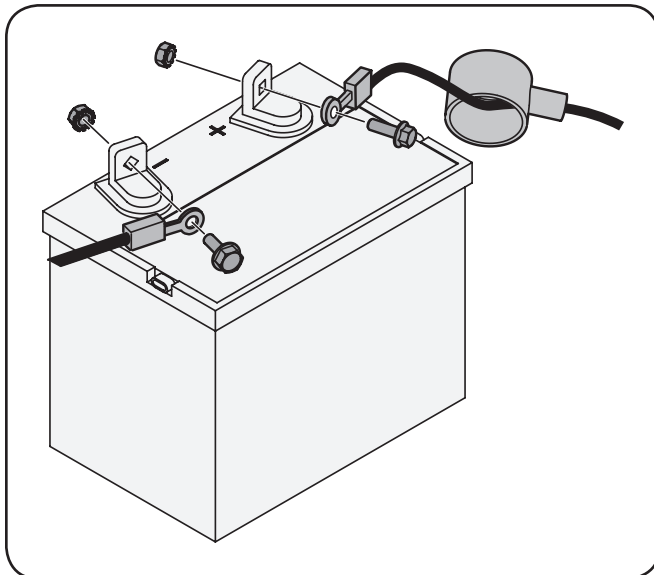

Figure 3-10
1. Remove the plastic cover, if present, from the positive battery terminal and attach the red cable to the positive battery terminal (+) with the bolt and hex nut. See Figure 3-10.
2. Remove the plastic cover, if present, from the negative battery terminal and attach the black cable to the negative battery terminal (-) with the bolt and hex nut. See Figure 3-10.